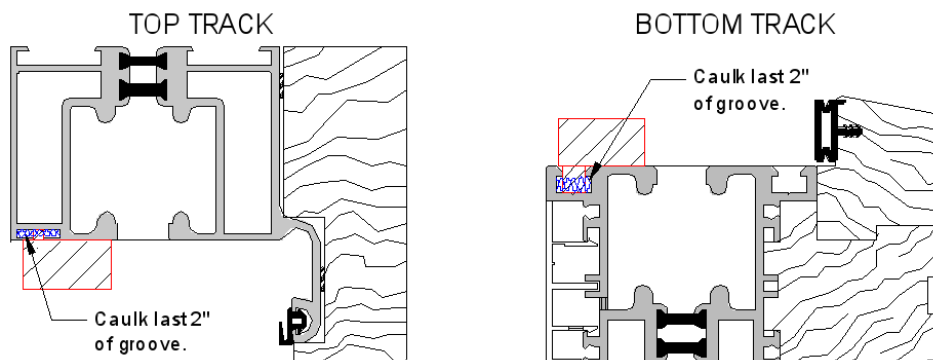

FIG 3.
- Caulk ends of both jambs as shown in Fig's 1 thru 3 depicted by squiggly lines. (FIG 3 on next page) Pre screw in 2 (3/8" x 4" RSS Structural Screw) into top and bottom pre-drilled holes on both jambs for ease of installation.
- Caulk the last 2" of the outside groove of both top and bottom tracks before inserting jambs, as shown in FIG 3.
- Each jamb has a jamb insert top and bottom; the thicker Insert is at the bottom of the jamb and will be inserted into the outside groove of the bottom track. The thinner jamb insert is at the top of the jamb and will insert into the outside groove of the top track. (See FIG. 3)